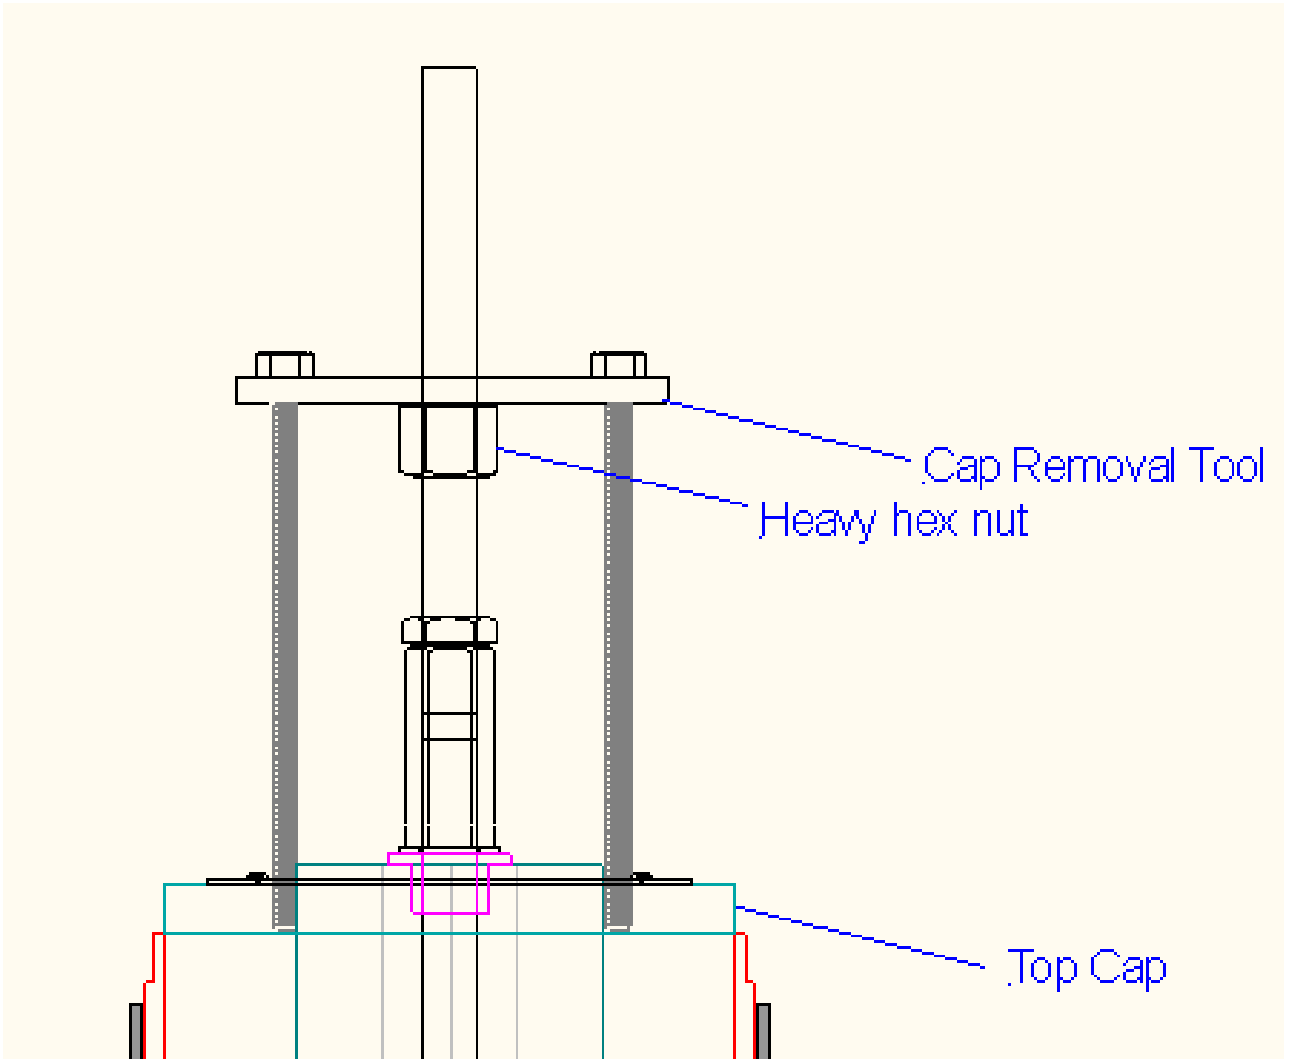

Figure 4 – Removal of Top Cap
- 22. Remove Top Cap using the Cap Removal Tool, as illustrated in Figure 4.